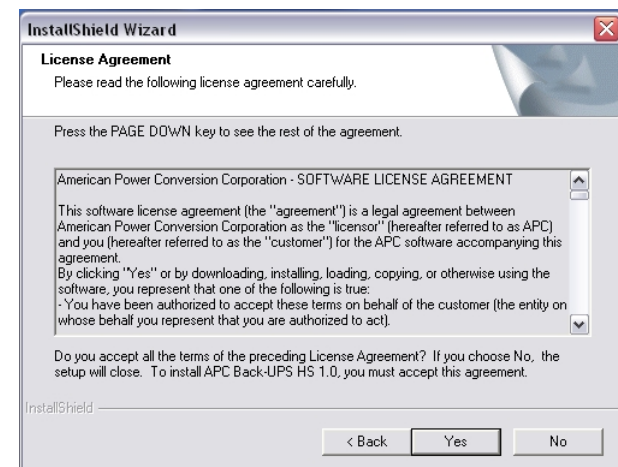

Figure 3. InstallShield Licence Agreement Screen
4. The software will then display the **License Agreement** (Figure 3). Please read the Agreement and accept the terms by clicking **Yes**. To decline the Agreement, click **No** - the software will not install.